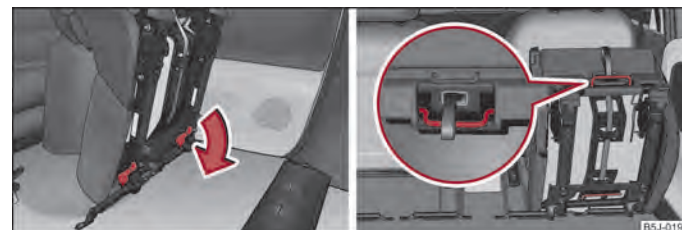

Fig. 40 Unlocking the folded forward seat/carrying handle on the seat cushion
- Unlock the folded forward seat by pressing the seat locks in the direction of arrow ⇒ fig. 40.
- Remove the seat with the carrying handle on the seat cushion ⇒ fig. 40 on the right.
- Fold the outer seat forwards ⇒ page 53 and lock it ⇒ fig. 40.